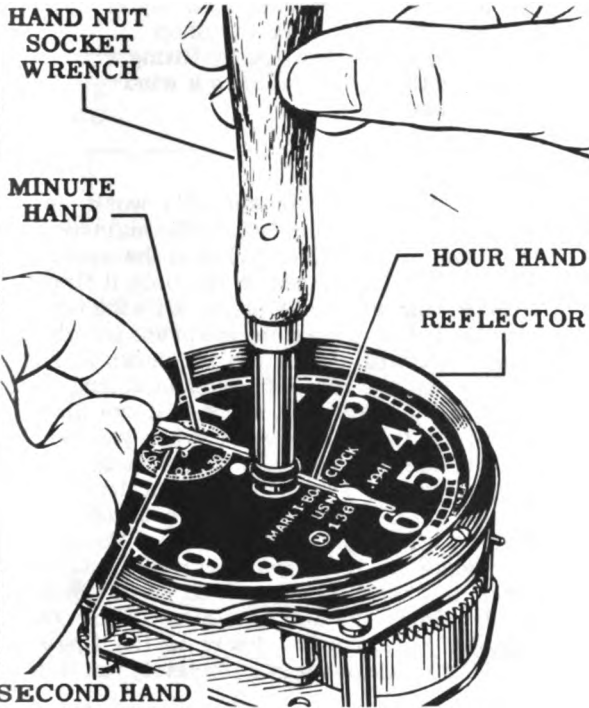

Figure 31
- Turn the dialed movement over so that it is dial side up and stands on the four extension pillars in the position shown in Fig. 31.
- Remove the hand nut with the hand nut socket wrench (Tool No. 4A) as shown in Fig. 31.